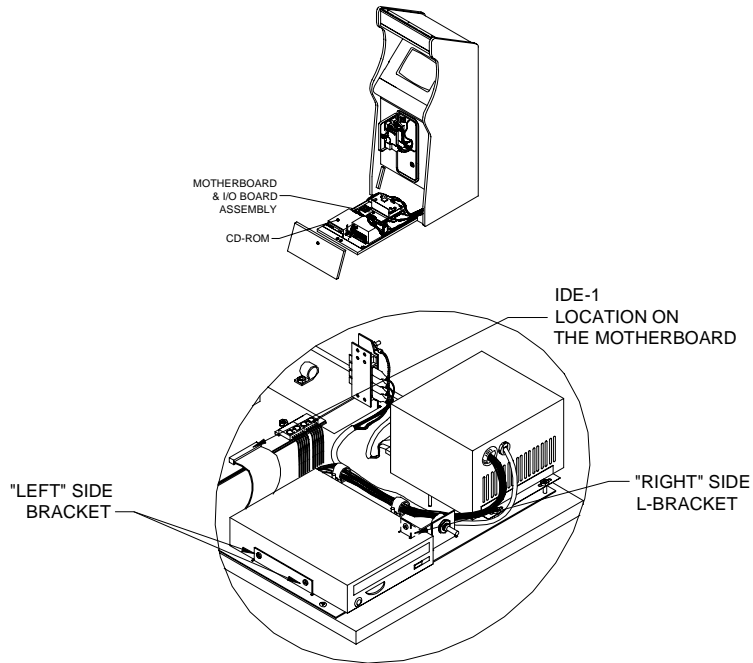

FIGURE 9 - CD-ROM ACCESS/REMOVAL
8. Disconnect the ribbon cable from the IDE-1 location on the motherboard. See Figure 9.
9. Locate the L-bracket on the right side of the CD-ROM and remove the screw securing the CD-ROM to the bracket. See Figure 9.
10. Remove the two screws on the left side of the CD-ROM. See Figure 9.
11. Disconnect the (4)-pin power connector on the CD-ROM and remove the CD-ROM from the game.